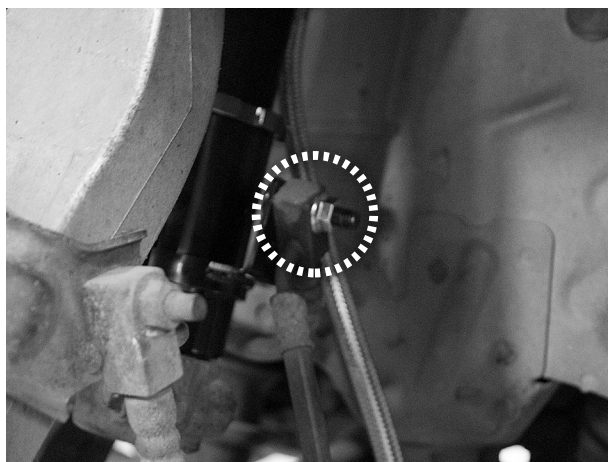

Fig. 19
7. Reinstall the brake line in the holder with the provided nut. Torque to 12Nm (9 lb.-ft.) (Fig. 19).